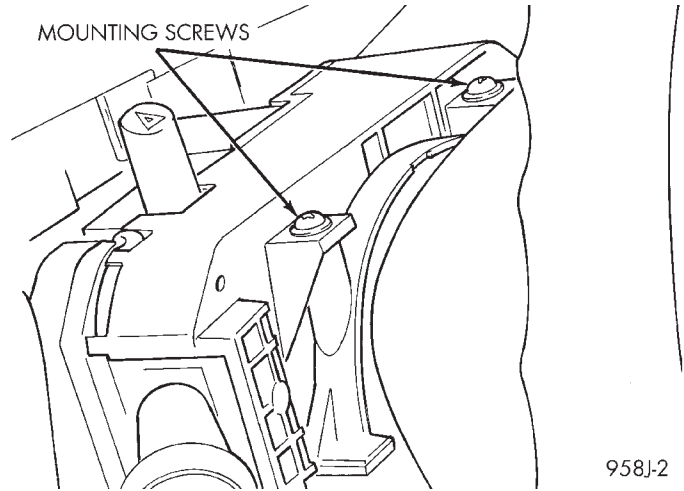

Fig. 5 Multi-Function Switch
- (1) Disconnect battery negative cable.
- (2) Remove the upper steering column cover. Refer to steering column cover removal procedures below.
- (3) Remove multi-function switch mounting screws (Fig. 5).
- (4) Disconnect wire connectors. Lift the switch straight up to remove.